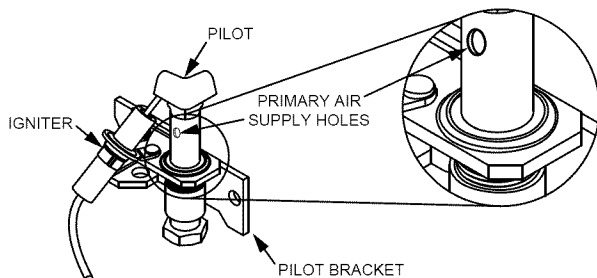

FIGURE 28.
2. Use a soft bristle brush to remove any debris that may have collected on the pilot. **Note:** Clean any debris found in the primary air supply hole on the pilot. See Figure 28.